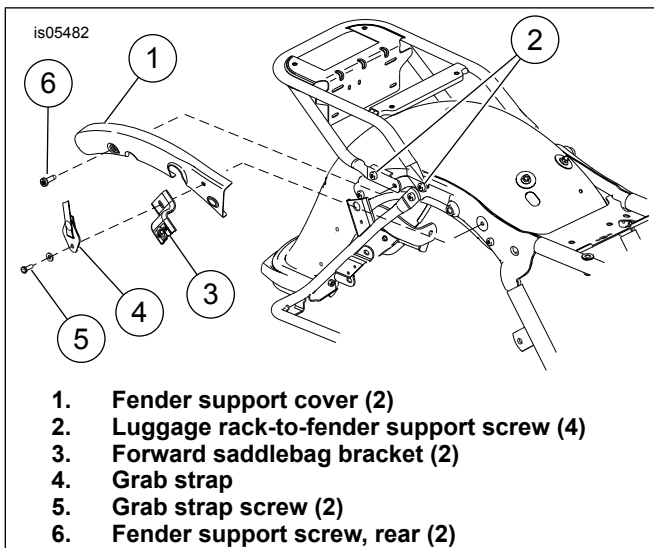

Figure 1. Remove Luggage Rack
2. See Figure 1. Remove the grab strap screws (5) and washers, grab strap (4) and forward saddlebag brackets (3). Save parts for installation.
3. Remove and discard the rear fender support screw (6) and fender support cover (1). Repeat steps for the opposite side.
4. Remove luggage rack-to-fender support fasteners (2) on each side.
1. See Figure 1. Install the forward saddlebag bracket (3), grab strap (4), washer and grab strap fastener (5). Tighten to 16–20 N·m (12–15 ft-lbs).